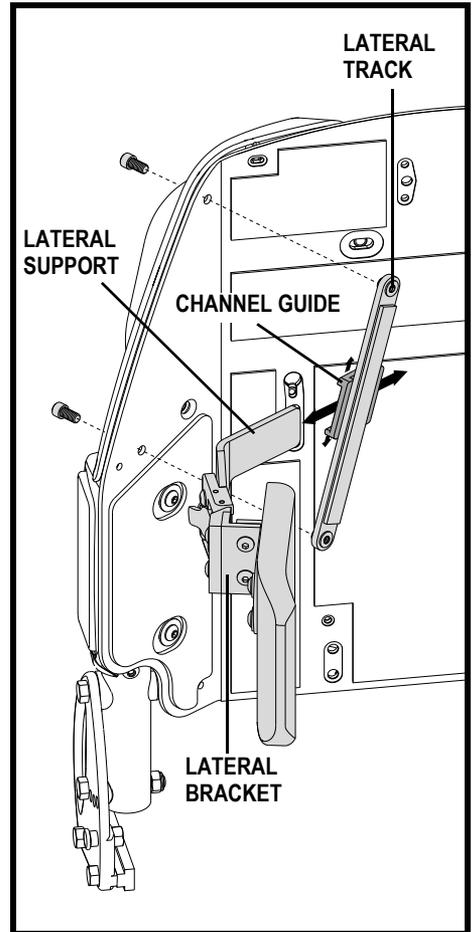

Figure 9. Laterals
2. Slide the lateral support through the channel guide as shown in **figure 9**.
1. Slide the lateral support to the desired height and width. See **figure 9**.